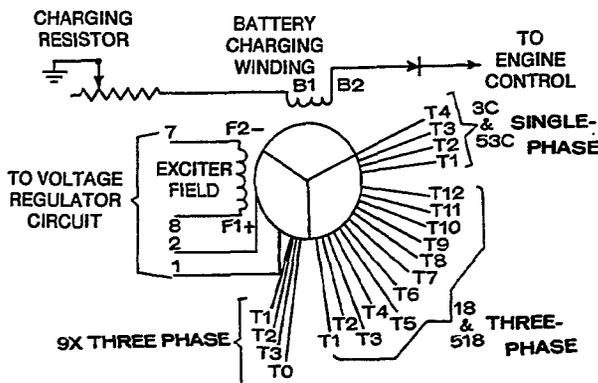

FIGURE 2. SINGLE AND THREE PHASE GENERATOR SCHEMATIC (COMPOSITE)
All generators have four wires extending from the stator housing in addition to the AC output leads, Figure 2. Lead B² is from the battery charge winding and connects to terminal 7 of the engine control. Lead F¹⁺ and F²⁻ are from the exciter field winding and are connected to the output terminals of the voltage regulator. Leads 1 and 2 are connected to the stator windings and provide reference voltage and input power to the voltage regulator. These four leads are connected at the factory.
Figure 2 is a composite illustration showing four output leads for single-phase units, 12 output leads for 3-phase broad range units, and four output leads for code 9X 3-phase 347/600 volt generators.
1. The slide tap on adjustable resistor R21, located in the generator air outlet, should be set to give about 2 amperes charging rate, Figure 2. For applications requiring frequent starts, check battery charge condition (specific gravity) periodically and if necessary, increase charging rate slightly (slide tap nearer ungrounded lead) until it keeps battery charged. Having engine stopped when readjusting avoids accidental shorts. Avoid overcharging.